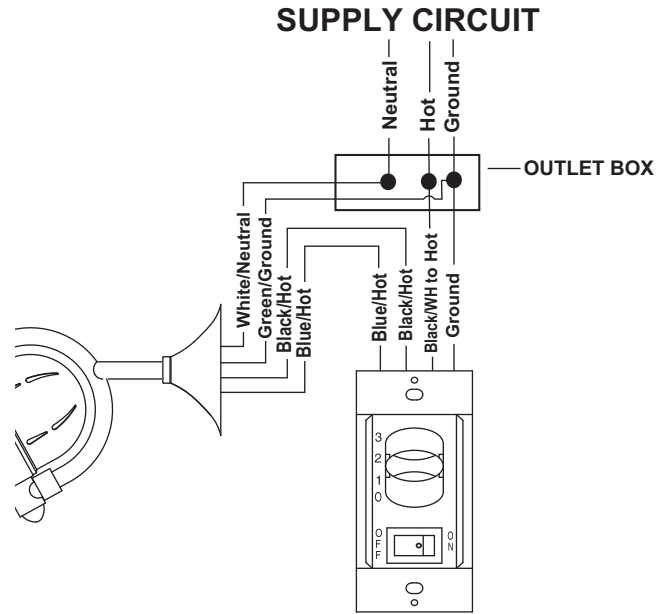

Figure 3
4. Connect the neutral fan wire to the household neutral wire. (Fig. 3)
5A. Single Circuit Connection Oscillation and fan motor action are not separate. Connect the black, hot fan blade motor wire to the blue, hot oscillating motor wire. Attach these two wires to the hot, household supply wire. (Fig. 3)
5B. Two/Dual Circuit Connection Oscillation motor can be regulated apart from fan motor. Connect the black, hot fan blade motor wire to a hot, household supply wire. Connect the blue, hot oscillating motor wire to the second hot, household supply wire. (Fig. 3)